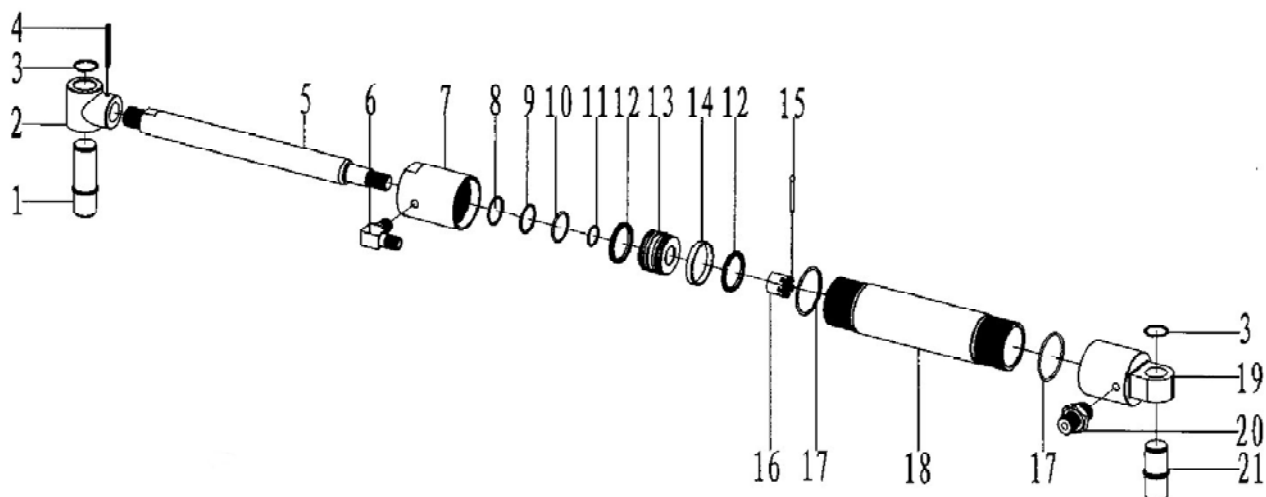

Fig 25
7.22. Clamping cylinder assembly (Fig25, Table24)